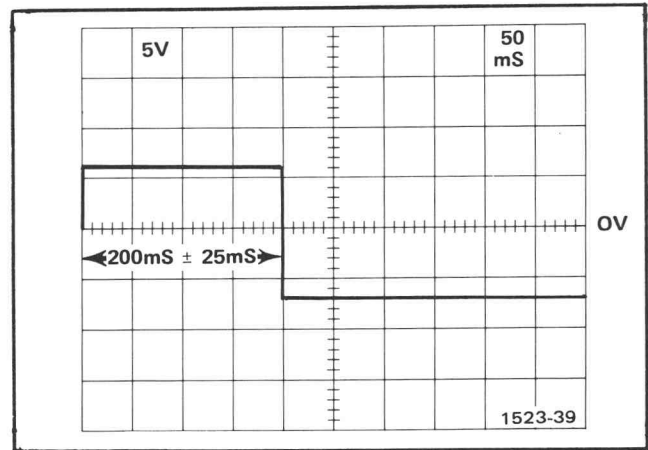

Fig. 5-8. QRS Width.
- b. CHECK—Pulse duration at TP388 is 200 ms,  $\pm 25$  ms (see Fig. 5-8).
ADJUST—QRS Width (R357): 200 ms width pulse (see Fig. 5-8). Disconnect ECG Lead Check signal.